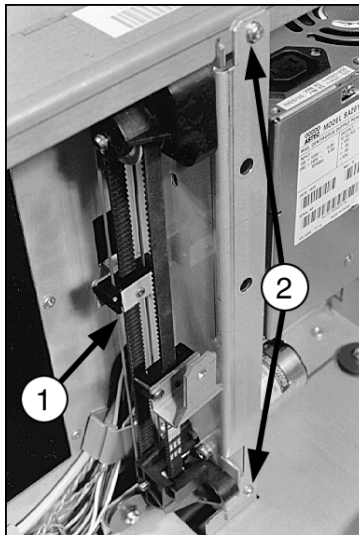

Figure 5-41. Vertical Drive Assembly Rope Coupler and Assembly Mounting Screws
4. Remove the T-10 screw on the rope coupler cover to expose the ropes (see Figure 5-41 (1)). Pull the ropes out of the coupler.